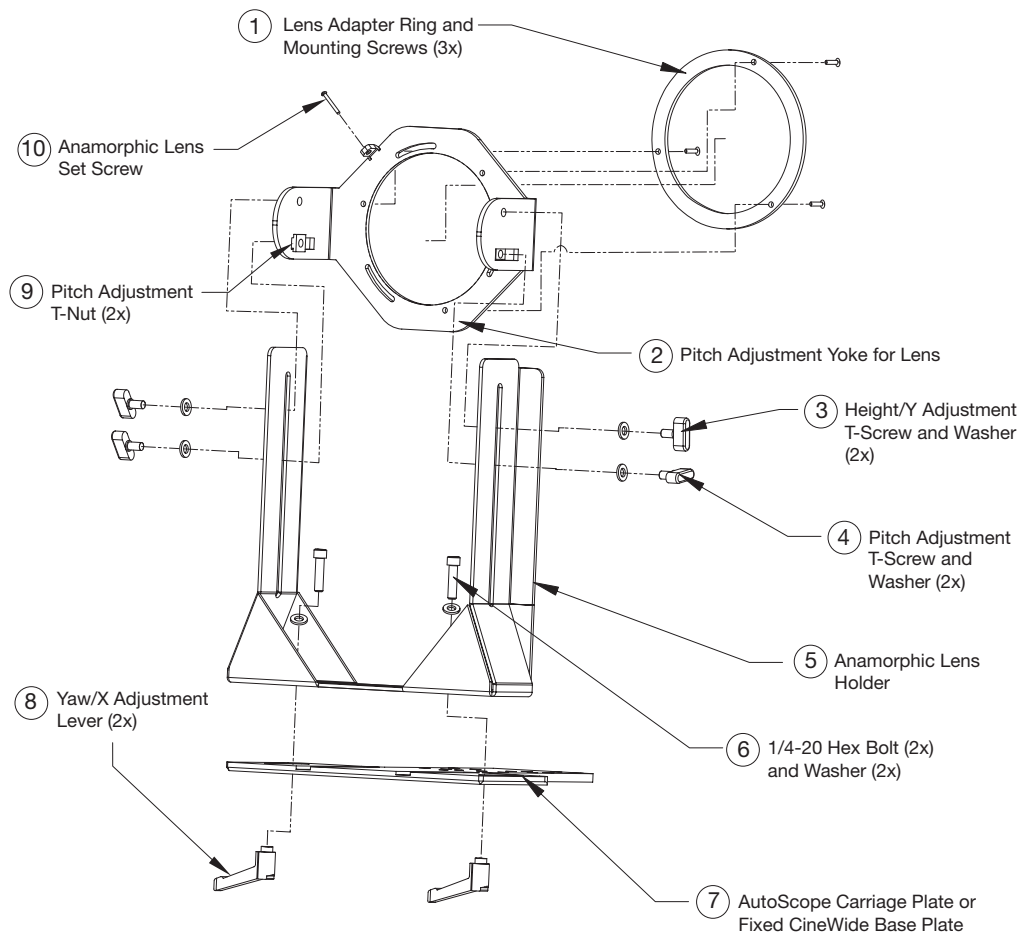

Figure 3-18. VX-33i Anamorphic Lens Mounting Assembly - Exploded View
The VX-33i Anamorphic lens mount kit consists of everything shown in Figure 3-18. Some components shipped with your projector may differ slightly from what is shown in these instructions. If any items are missing or damaged, please contact your Runco dealer or Runco Customer Service at (800) 23RUNCO.